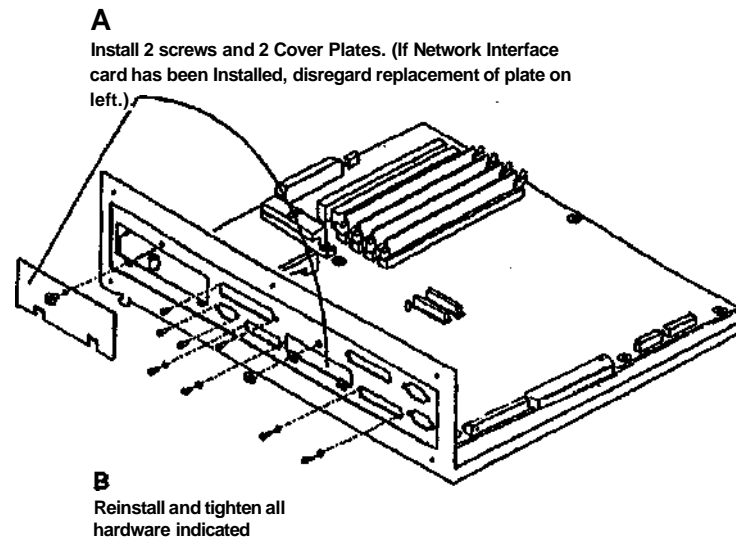

Figure 10 Installing hardware on new Connector Panel
21. (Figure 10): Transfer all hardware removed from the old Connector Panel Plate to the new Connector Panel Plate.